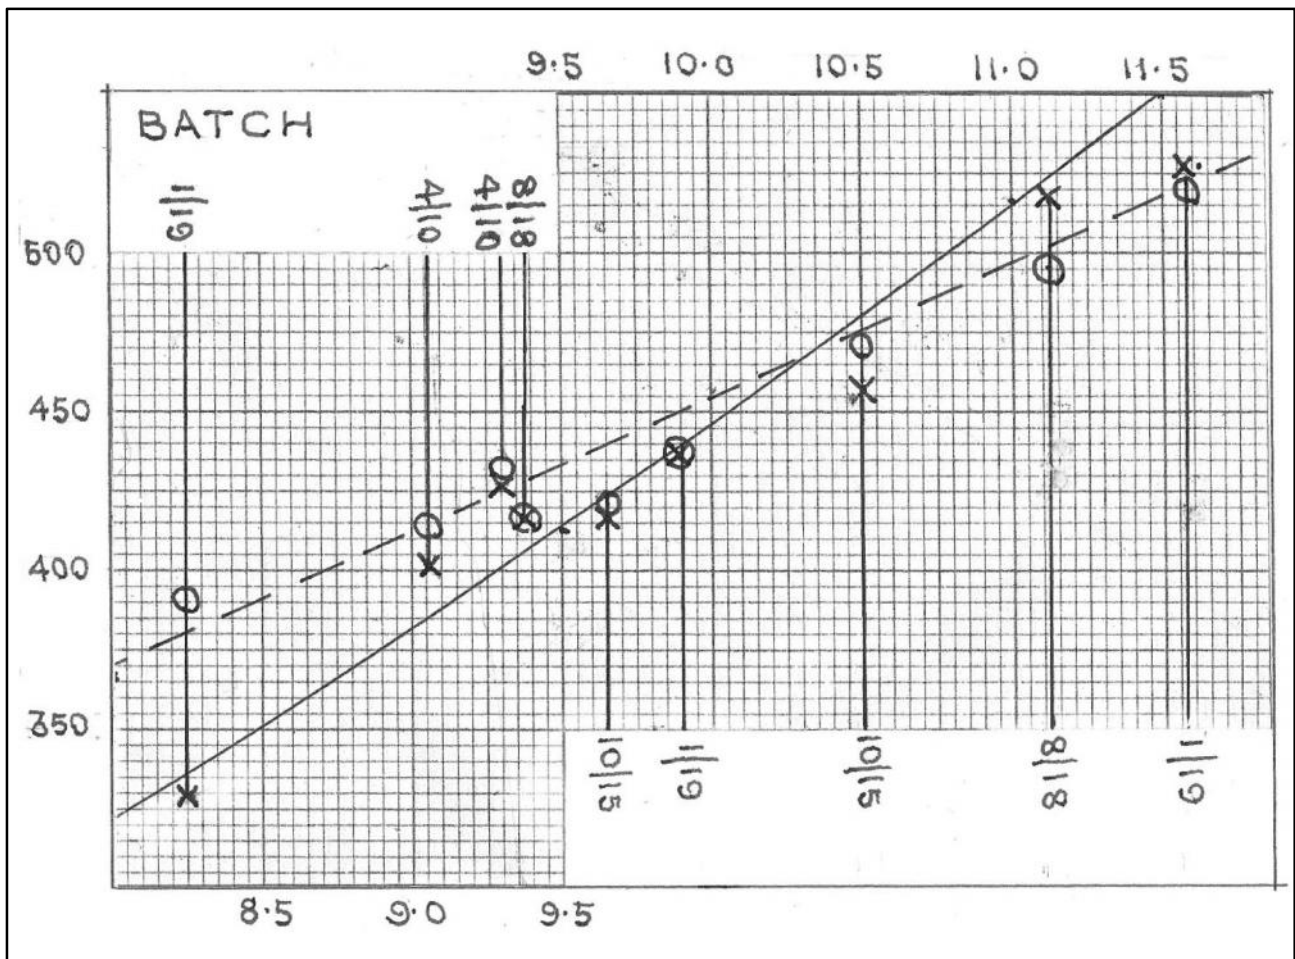

Fig. 2 Summary of turns prediction tests
**Predicting performance: see Fig. 2.** It is useful to know, even approximately, the maximum number of turns a motor should take. John Barker published a very useful article - 'Prop Picker' - some years ago in which he offers a formula for calculating turns. The motor length in inches is cubed and then divided by the weight of the motor in grams. The square root of this is then multiplied by a factor which reflects the quality of the rubber. At the time of the article and using Tan 2 rubber this was 44. This method can be applied to any weight and length of motor.